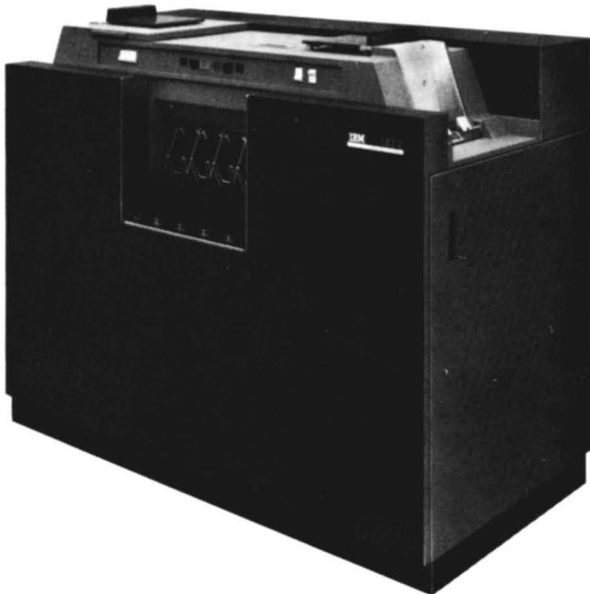
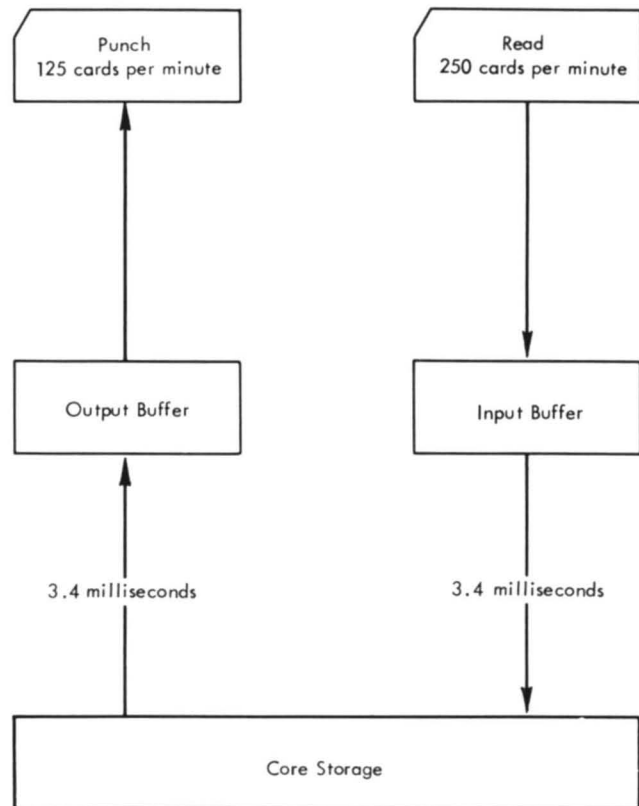

Figure 11. IBM 1622 Card Read-Punch
Figure 12. 1622 Buffer Storage
The IBM 1622 Card Read-Punch (Figure 11) provides punched card input and output for the system. The reader and punch feeds are separate and functionally independent, with individual switches, lights, checking circuits, buffer storage, and instruction codes. Under program control, up to 250 cards per minute can be read and 125 per minute punched. Reading, punching, and processing can occur simultaneously because of individual buffer storage. Buffer storage data is transferred in 3.4 milliseconds; the remaining reader and punch feed cycle time is available for processing (see Figure 12). A Last Card indicator (09) is provided for end-of-job interrogation by the programmer.